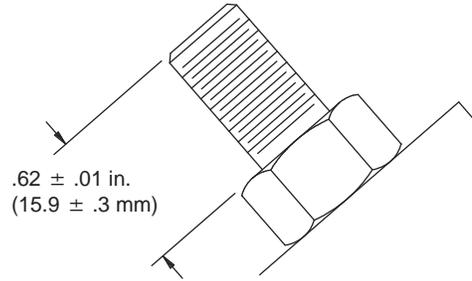

Fig. 2
4. Install the new adjusting screw (90 mm long) and jam nut into the motor opening. Adjust the length of the screw projecting above the jam nut to the dimension shown in Fig. 2. This specified projection dimension must be met after the jam nut is properly tightened. Tighten the jam nut to 60 lb-ft (81 N•m).